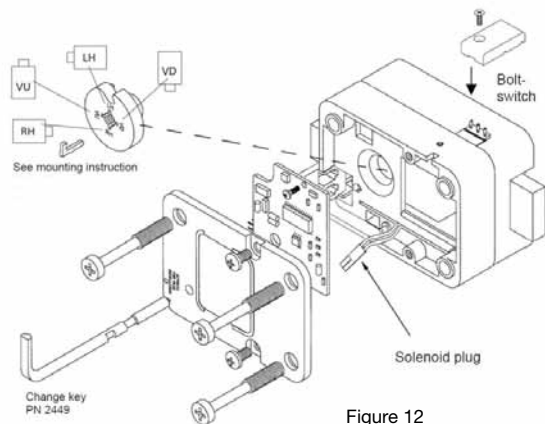

Figure 12
2. Mount the lock with the three US 1/4-20 screws. The recommended torque for mounting screws on the Swing bolt lock is 30 in./lbs. (3.4 N•m) (Figure 12).
3. Remove the two cover screws from the back cover of the lock assembly, and remove the lock back cover (Figure 12).
4. Carefully unplug the solenoid connector from the system card. (If applicable, unplug the bolt switch connector from the system card.) (Figure 12.)
5. Remove the mounting screw from the system card, and gently lift the system card out of the case (Figure 12).